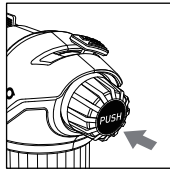

Fig.4
- Press the **Gas Control / Ignition Button** to ignite the torch. (Fig.4)